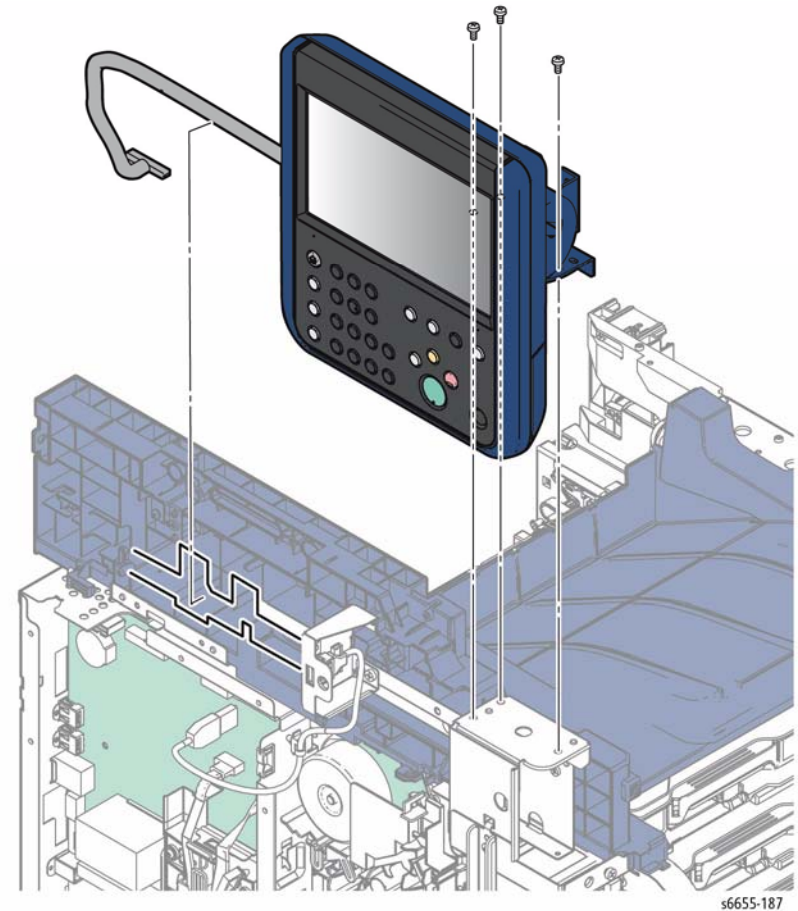

Figure 2 Remove the UI Hinge Assembly
8. Refer to Figure 2 to locate and remove three screws (silver, 6 mm) that secure the UI Hinge Assembly to the chassis, then tilt and slide the UI Hinge Assembly to the right to remove.